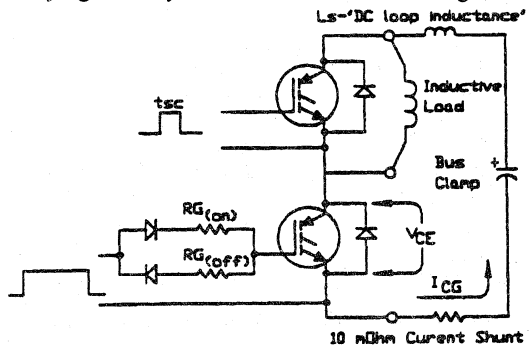
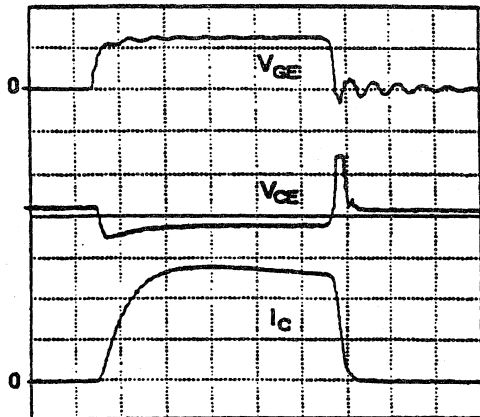

Figure 5. Short Circuit Test Circuit
Figure 8. Hard Switch Fault test waveforms - IRGTA090F06
This mode of failure could be avoided by minimizing the circuit stray inductances on the DC side of the switching device, also called 'dc loop' inductance. See Figure 5. The objective could also be achieved by slowing the rate of fall of fault current which again, to some degree, is dependent on the turn-off series gate resistor, $R_{G(off)}$. The higher the value of $R_{G(off)}$, the slower the current rate of fall. The above is a subject of discussion in a later section.
a) Fault Under Load: A device may be subjected to a short circuit while in normal conduction. The test circuit is shown in Figure 5. The waveforms in Figure 6 illustrate this type of fault. Initially, the IGBT is gated on and is operating normally, carrying a steady load current within its ratings
(=80A). The voltage across the device, V_{CE} , is low. A fault is imposed on the device by turning on the complementary IGBT shown in Figure 5, causing a shoot-through. The current increased rapidly, pulling the IGBT out of its near saturation state. The rise in the V_{CE} caused a current I_{CG} to flow through the Miller capacitance, CC_G . Due to the presence of a high $R_{G(off)}$ (=100 Ω), the gate-emitter voltage jumps to a higher level (from 11V to 17V). Consequently, the fault current for this high-gain IGBT rises to over 1200A before declining as V_{GE} dwindles back to its normal on-state value. The fault current in this experiment was removed by turning off the complementary IGBT switch.
b) Hard Switch Fault: The inductive load in Figure 5 is short circuited and the switching device is gated on directly into the fault. In this mode, the IGBT is off and the system voltage is supported across the device. The rate at which the device begins to conduct current and the magnitude of the fault current are related to the charging rate of the input capacitance and the gate-drive voltage V_G . This type of fault is described by the waveforms of Figure 8.
It is obvious from Figures 8 and 9 that, for a hard switch fault, only a small positive dv/dt is generated across the IGBT. Thus, the Miller effect, a major consideration for the fault under load, has much less influence for the hard switch fault, particularly because the Miller capacitance is much lower at higher voltage. Thus, the hard switch fault can result in much lower fault current than the fault under load.